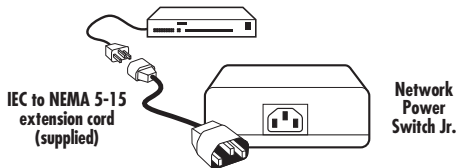

Figure 3-4. Use the included power cord (or one for your country) to connect to the power output.
1. Connect the device to be powered ON and OFF to the IEC receptacle marked “Switched Outlet,” which is located on the front of the switch. See Figure 3-4. A short IEC-320 to North American (NEMA 5-15) power cord is included for connecting the switch outlet to the device to be power controlled.